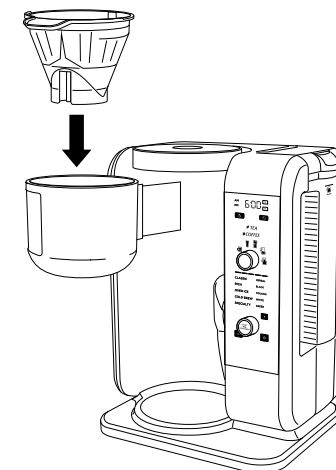
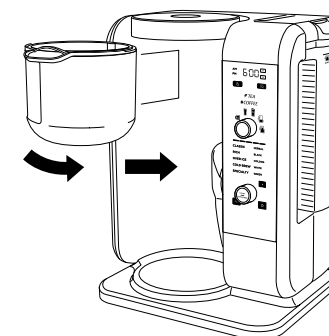

Fig. 5
Fig. 6
- 2 Ensure one of the removable filter holders is nested inside the brew basket (**Fig. 5**). Once in place, slide the brew basket all the way in until you hear a slight click (**Fig. 6**).